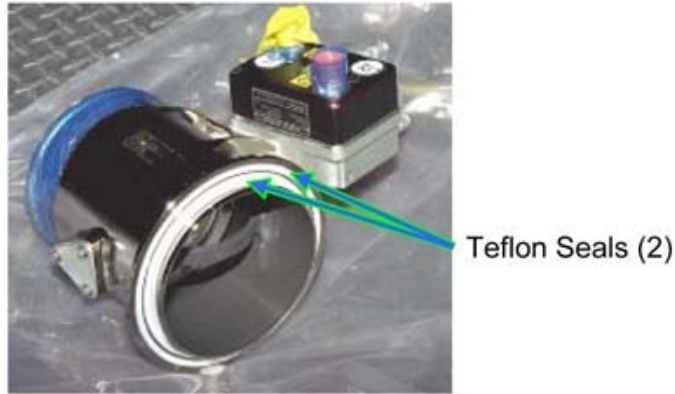

Figure 8.- Typical View IMV Teflon Seals.
Refer to Figure 8.
- 5.2 Using reference mark "H" (on bulkhead) and "IMV VLV ALIGNMENT MARK" arrow (on valve), align IMV Valve to bulkhead. Install V-Band Clamp loosely to hold Valve in place (Ratchet, 1/4" Drive; 4" Ext, 1/4" Drive; 7/16" Deep Socket, 1/4" Drive). Refer to Figures 8, 9, 10, 11, 12.